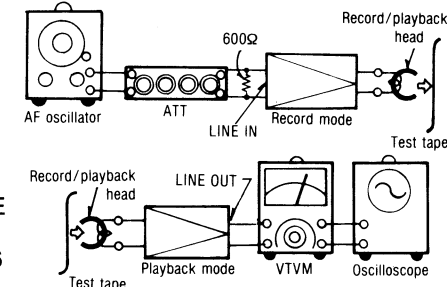

Fig. 15
- Test equipment connection is shown in fig. 15.
- Repeat from step (2).